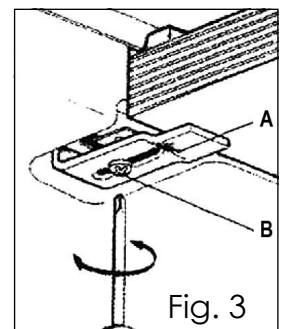

Fig. 3
- 3) With a screwdriver assemble the 4 plates A with the special screw B (fig. 3).